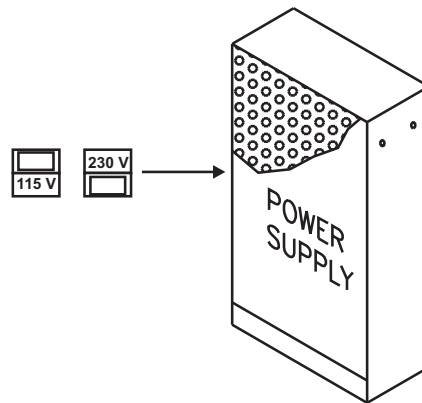

Figure 2-5. Primary Power Selection Switch
4. Ensure that the power supply unit AC-input-voltage selector switch is set to the proper position for either 115 Vac or 230 Vac. See Figure 2-5.